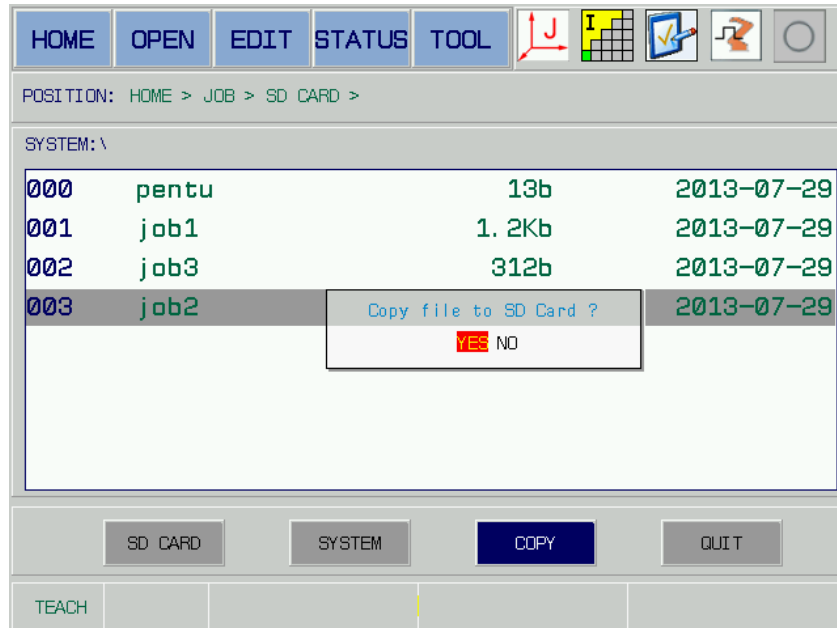

Fig. 5-23
3. Move the cursor on the program “job2.pr!” to be copied by [TAB] and up/down direction buttons; the system may prompt “Confirm the copied file to U disk?” by [SELECT] (or shift the cursor to the [Copy] button in the area 2, and then press the [SELECT]); refer to the Fig. 5-23.